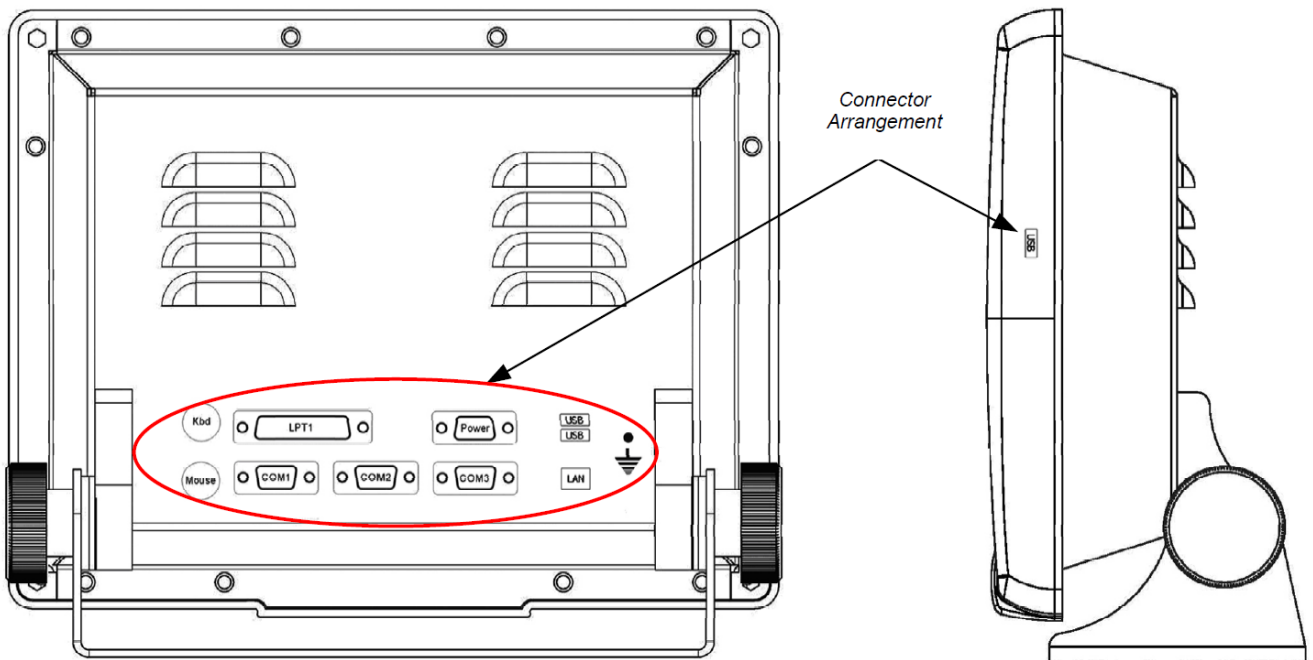
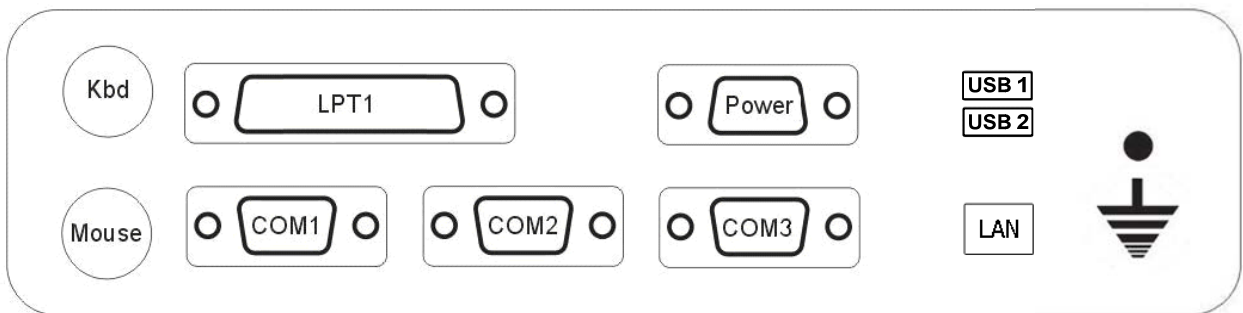

Figure 5 DT Connector Arrangement.
Figure 6 Purpose of Connectors for DT-310.
1. DT body shall be grounded to common grounding busbar. Grounding bolt (M5) is located from DT reverse side near USB and LAN connectors (refer to Figure 5 and Figure 6).
5. Wait for operating system (OS) starting and software loading.
External devices and power system are attached to DT by means of connectors led to the back panel of DT and USB connector led to the right side panel of DT (refer to Figure 5 and Figure 6).